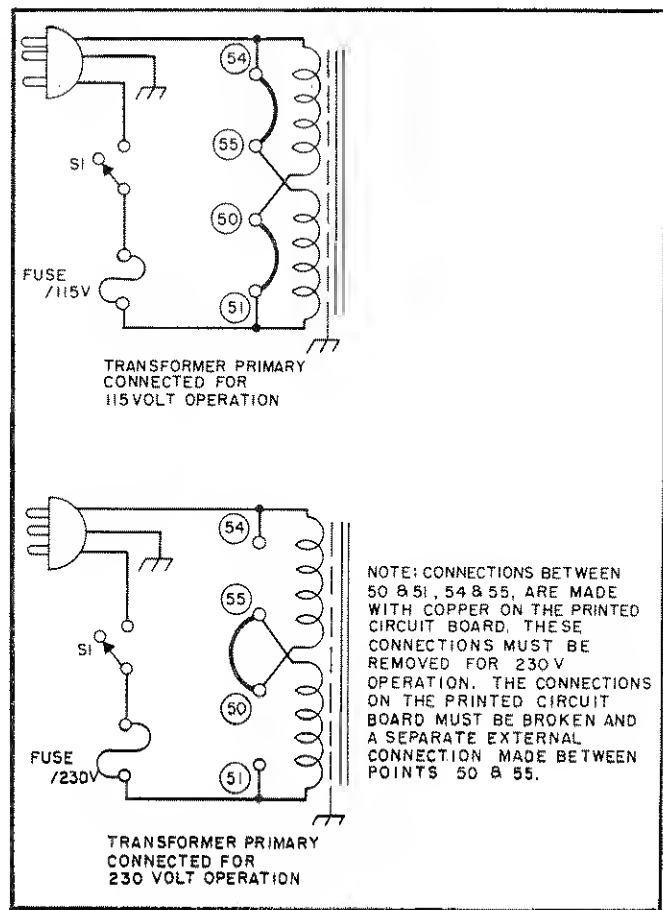

Figure 2-1. Primary Connections
2-15 CONNECTIONS FOR 230 VOLT OPERATION (Figure 2-1)
- b. Break the copper between 54 and 55 and also between 50 and 51 on the printed circuit board. These are shown in Figure 2-1, and are labeled on copper side of printed circuit board.